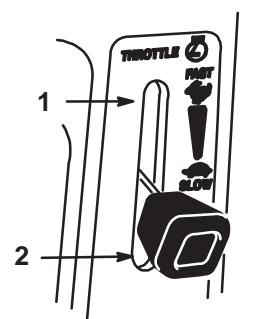

Figure 5
5. Move throttle lever to "FAST" (Fig. 5).
7. After the engine starts, move the choke lever to "OFF" (Fig. 5). If the engine stalls or hesitates, move the choke lever back to "ON" for a few seconds. Then move the throttle lever to desired setting. Repeat this as required.
1. Move the throttle lever to “SLOW” (Fig. 5).